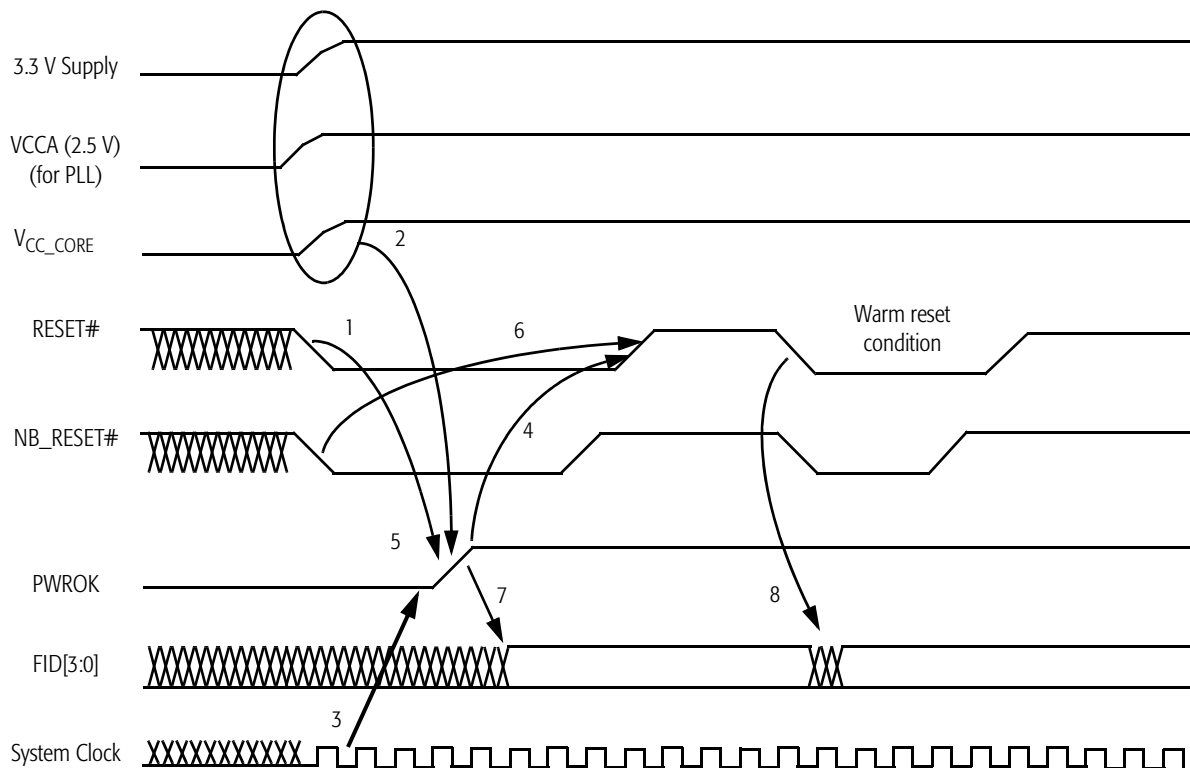

Figure 11. Signal Relationship Requirements During Power-Up Sequence
Figure 11 shows the relationship between key signals in the system during a power-up sequence. This figure details the requirements of the processor.
1. Figure 11 represents several signals generically by using names not necessarily consistent with any pin lists or schematics.
2. Requirements 1–8 in Figure 11 are described in “Power-Up Timing Requirements” on page 42.